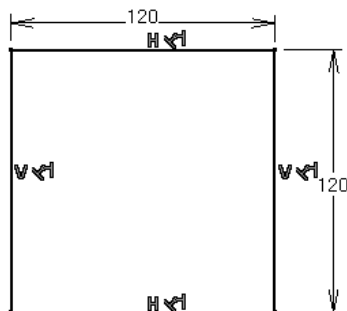

Figure 15-146 Sketch for the base wall feature
- Invoke the **Sketcher** workbench by selecting the xy plane and draw the sketch, as shown in Figure 15-146.